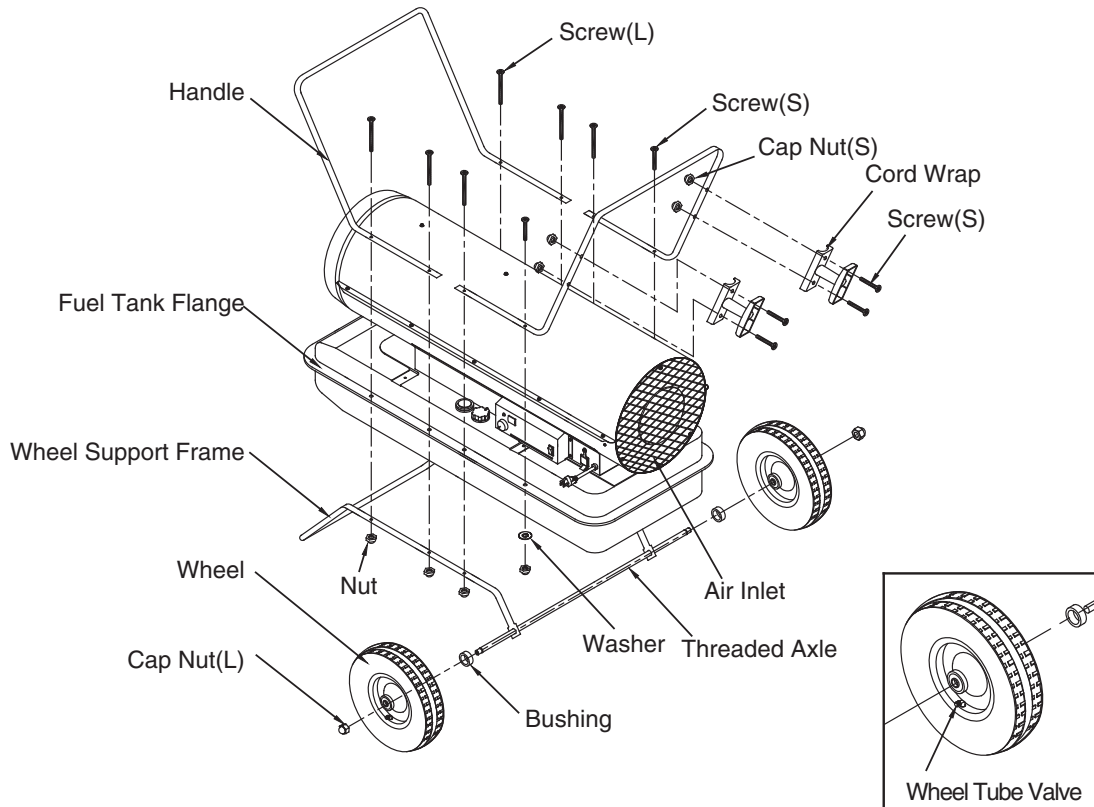

Figure 3. Assembling Handle & Wheel and Cord wrap
NOTE : When installing wheels, tube valve should face out from support frame (Figure 3).
- 3) Place heater on wheel support frame. Make sure air inlet end (rear) of heater is over wheels. Align the holes on fuel tank flange. Insert screws(L) through handles (front and Rear), fuel tank flange, and wheel support frame. Insert screws(S) through rear handle, fuel tank flange, and washer(S) as shown in figure 3 and attach nut finger tight after each screw is inserted.
- 6) Insert screws through cord wrap, rear handle as shown in Figure 3 and attach nut finger tight after each screw is inserted.